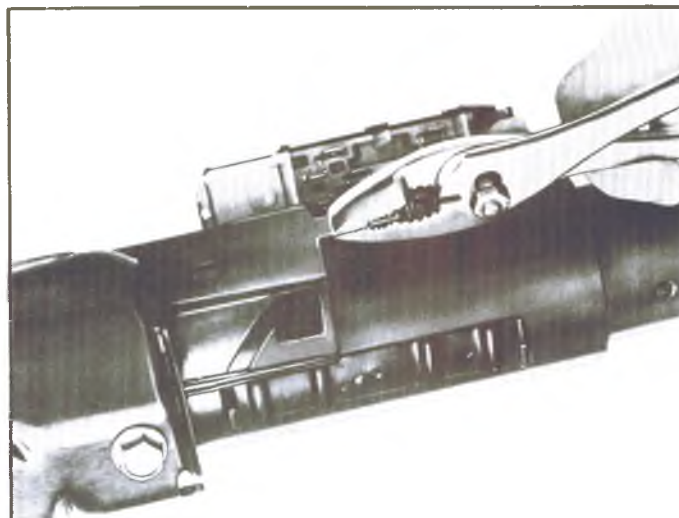

Fig. 50—Removing Directional Signal Wire Protector
10. Remove wire protector by pulling downward out of column with pliers using tab provided (fig. 50).